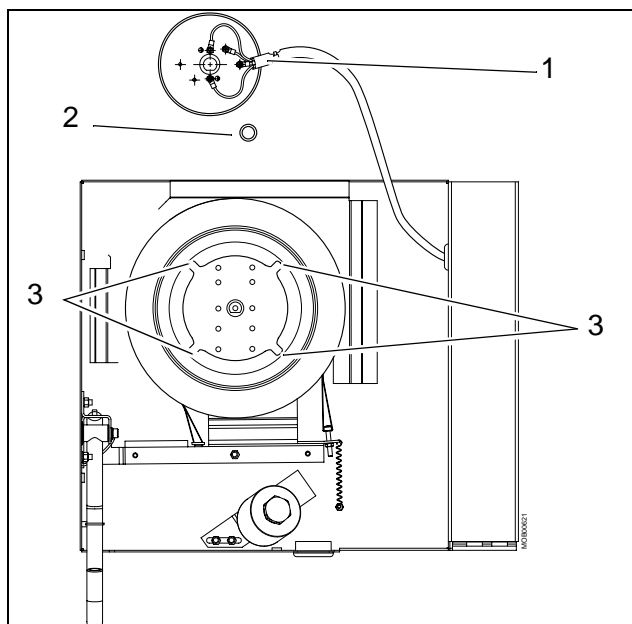

Fig. 5
- Disconnect cable from upper plate (pos. 1 / Fig. 5).
- Remove the distance ring (pos. 2 / Fig. 5) from the axle.